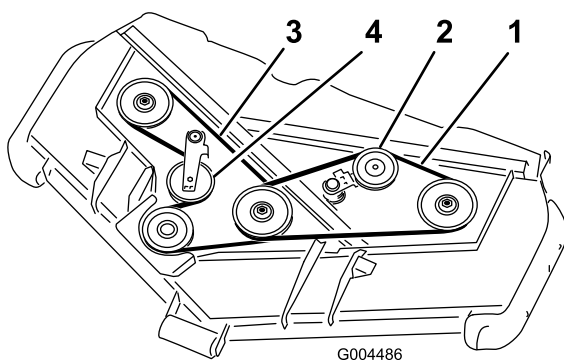

Figure 78
3. Using a breaker bar or similar tool, move the idler pulley for the top belt (Figure 78) away from the top
- Using a breaker bar or similar tool, move the idler pulley for the bottom belt (Figure 78) away from the bottom drive belt to release the belt tension and allow the belt to be slipped off the pulleys.
- Route a new belt around the gearbox pulley, bottom spindle pulleys, and idler pulley assembly as shown in Figure 78.
- Route a new belt around the top spindle pulleys and idler pulley assembly as shown in Figure 78.